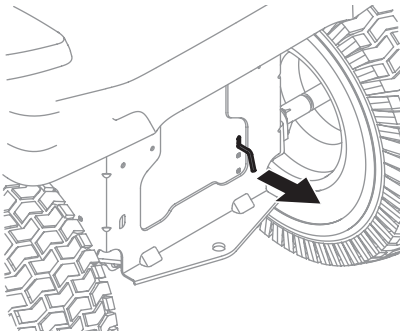

Figure 1
1. Engage the transmission bypass rod to move the tractor manually without starting it. The transmission bypass rod is located on the rear of the tractor, on the frame. Engage the bypass rod by pulling out (Figure 1).
2. Disengage the transmission bypass rod by pushing the rod back in after moving the tractor (Figure 1).